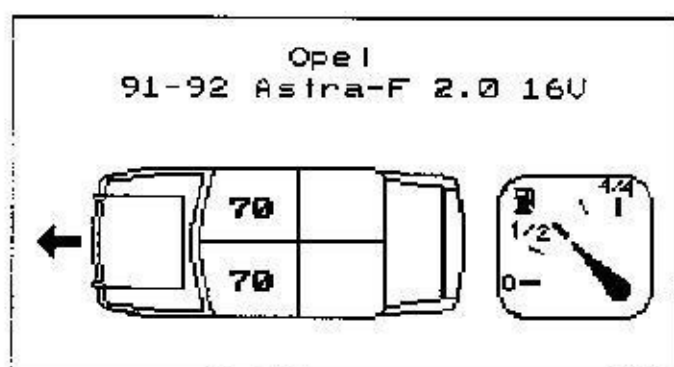

Figure 2-9
7. Some of the specifications are based on certain ride height measurements and/or load weight position. If load weight is a factor, the proper load weight will be displayed on the screen (see figure 2-9).